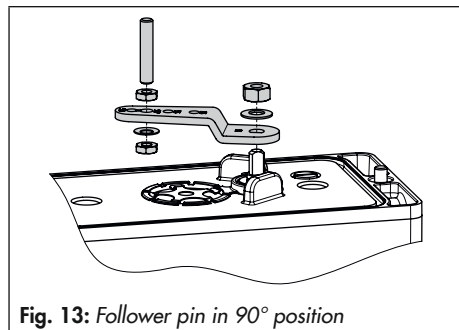

Fig. 13: Follower pin in 90° position
4. Insert and fasten the follower pin in the 90° position on the positioner's lever (see Fig. 13). Only use the longer follower pin included in the mounting kit.
5. Align the positioner on the adapter bracket (1) in such a way that the follower pin engages into the actuator's follower wheel (3).
6. Fasten the positioner onto the adapter bracket (4) using the fastening screws (6).
4. Insert and fasten the follower pin into the 90° position on the positioner's lever (see Fig. 13 on page 60).
7. Mount the Type 3710 Reversing Amplifier (7) together with the two guide bush-